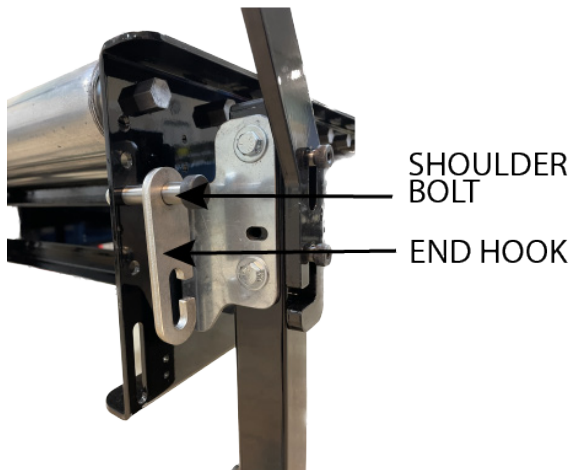

Figure 3: Shoulder Bolt with End Hook
1. Locate the end hooks on the Impact Cart (Figure 3) and also on the Flex Conveyor.